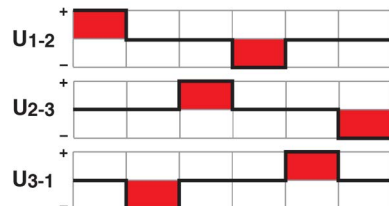

Figure 6-47 Block commutation of EC (BLDC) motors – Definition of phases
- either ensure that the alignment follows the specified pattern (→Figure 6-47)